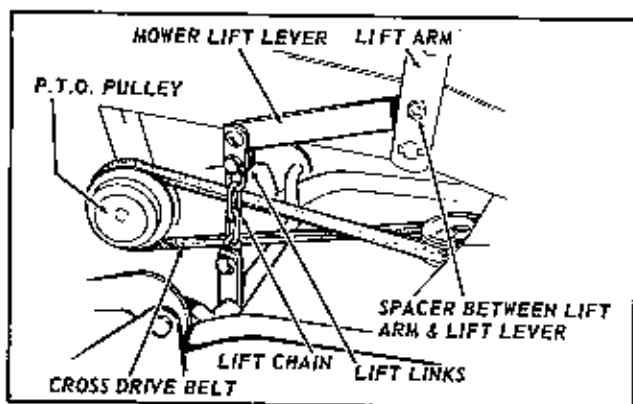

FIGURE 3
3. Place the tractor lift lever in its rear position and attach the mower lift lever to the tractor lift arm on right hand side of tractor as shown in Figure 3. Use hex capscrew, flatwashers, and hex nut furnished for this purpose.
4. Connect the mower lift chain to the lift lever by fastening the lift links in place with a pin and hair pin cotter as shown in Figure 3.
5. Place the cross drive belt in position on the mower drive pulley. Give the belt a 90° twist towards the left hand side of the tractor and mount belt to larger pulley of power take-offs as shown in figure 3. When installed in proper manner, the belt should run from the left side of mower pulley to bottom side of power take-off pulley.